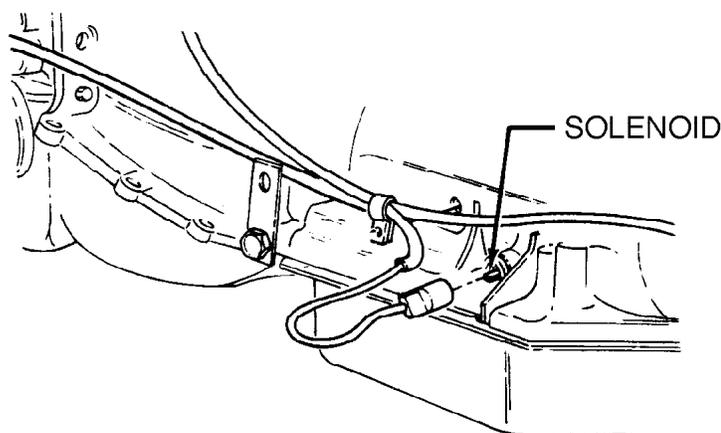

Figure 6-8. Transmission Detent Solenoid Resistance Test.
**E. TRANSMISSION DETENT SOLENOID RESISTANCE TEST (Figure 6-8)**